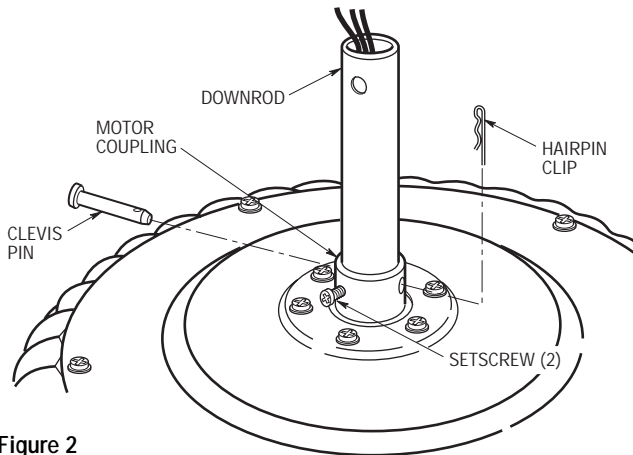

Figure 2
2. Unscrew the two setscrews (Figure 2) until they clear the inside of the motor coupling. Then separate, untwist and unkink the three 80" motor leads. Route the motor lead wires through the downrod. Align the clevis pin holes in the downrod with the holes in the motor coupling. Install the clevis pin and secure with the hairpin clip (Figure 2). The clevis pin must go through the holes in the motor coupling and the holes in the downrod. Be sure to push the straight leg of the hairpin clip through the hole near the end of the clevis pin until the curved portion of the hairpin clip snaps around the clevis pin. The hairpin clip must be properly installed to prevent the clevis pin from working loose. Pull on the downrod to make sure the clevis pin is properly installed.
<p>It is critical that the clevis pin in the motor coupling is properly installed and the setscrews securely tightened. Failure to verify that the pin and setscrews are properly installed (as shown in Figure 2) could result in the fan falling.</p>
3. Tighten the two setscrews (Figure 2) securely while pulling up on the downrod.